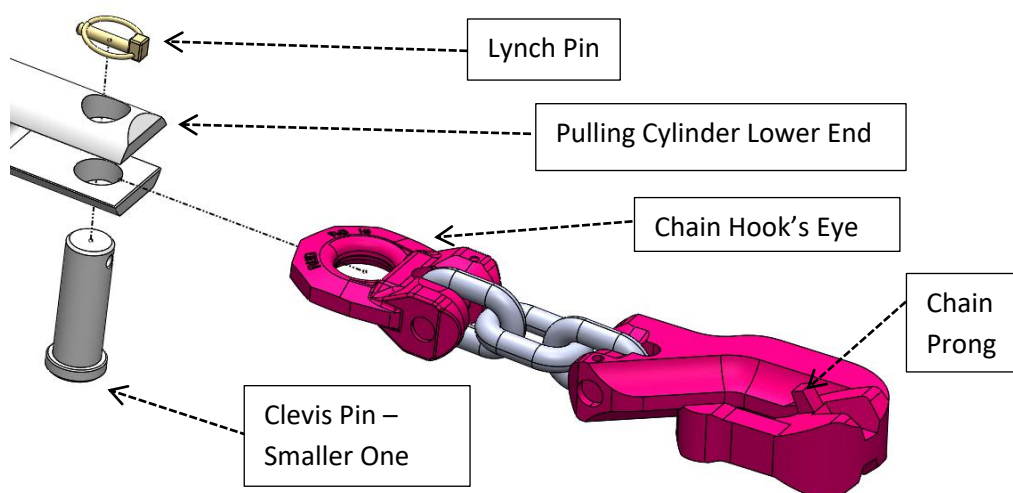

Figure 9 – Attaching Chain to Cylinder
- 5.17 On both sides, hook the running chain through the hook, using the shortest available link and let it hang down, checking that the chain is fully engaged into the hook (see Fig. 12), noting the prongs (see Fig. 9) fitting inside the chain links.